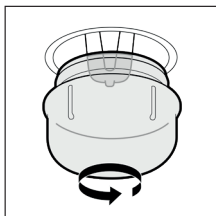

Fig. 7
2. Unscrew the glass cover in the anti-clockwise direction according to Fig. 7 and replace the bulb with a bulb of the same type and parameters.